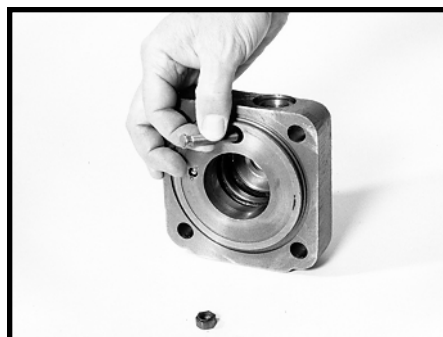

Figure 121
- 12. Assemble poppet adjusting screw (40) and nut (3) assembly into end cover (37) or closed end of housing (20) a few turns. Final adjustments will be made later.
**WARNING: IF SCREWS (2) AND (40) ARE UNEQUAL IN LENGTH, YOU MUST INSTALL THE SHORTER SCREW INTO END COVER OR CLOSED END OF HOUSING. OTHERWISE, THE POPPET ASSEMBLY MAY BREAK AND LOCK UP THE STEERING GEAR, POSSIBLY RESULTING IN AN ACCIDENT.**
**NOTE: More recent models of the HFB64 have a 5/16 24-2A poppet adjusting screw (2A) in the valve housing (9). This screw has an enlarged end. If your gear is equipped with this screw you must install the sealing nut (3A) onto the end of the screw after you assemble the screw into the valve housing. SEE FIGURE 121.**
19. If removed, assemble the poppet valve adjusting (2) and nut (3) assembly into the valve housing (9) a few turns.
**NOTE: If your gear is equipped with the 5/16 24 UNF 2A poppet adjusting screw (2A), assemble the screw from the inside of the valve housing. The screw should be run out until just before the enlarged end of the screw bottoms on the counterbore of the valve housing. Then assemble sealing nut (3A) with the seal facing the housing. SEE FIGURES 121, 122.**